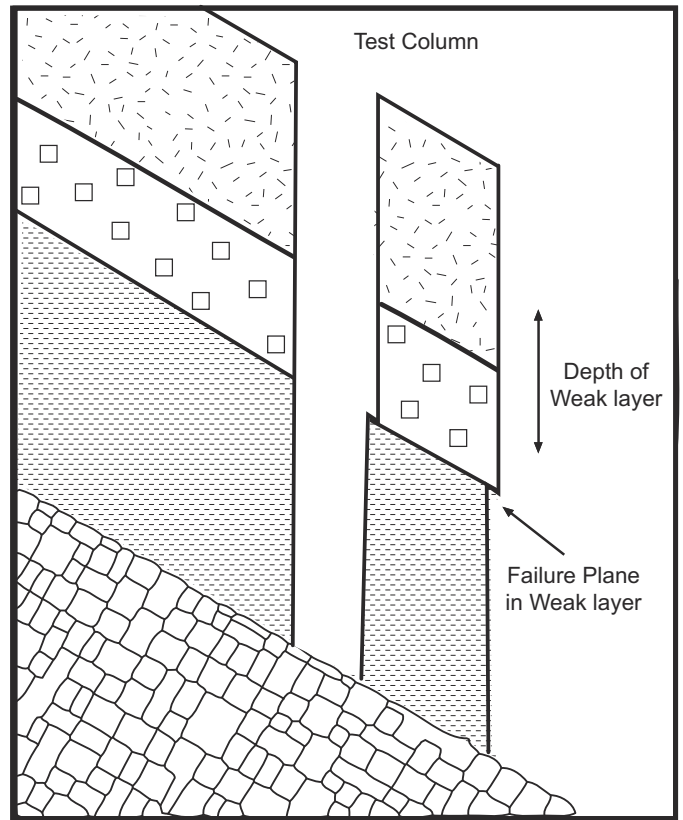

Figure 1-7. Weak Layer Giving in a Shovel Shear Test.
- Insert a shovel/ski behind the column and exert steady pressure while pushing down. Look for possible separation of the weak layers (see fig. 1-7).